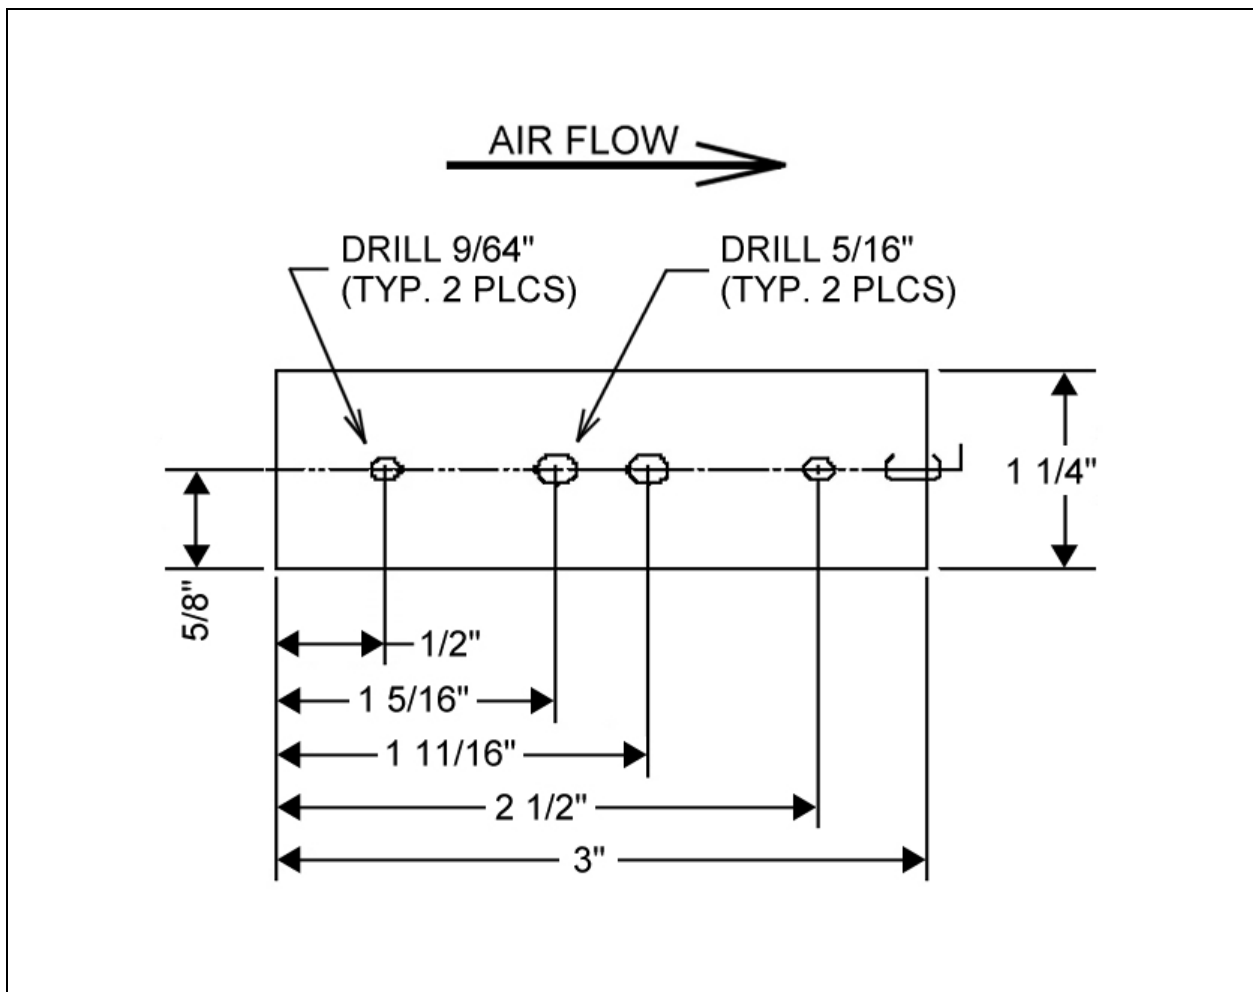

Figure 4: Duct Probe Installation Dimensions
2. Mark and drill the four holes for the duct probe as shown in Figure 4. The centerline must be parallel to the air flow through the duct.